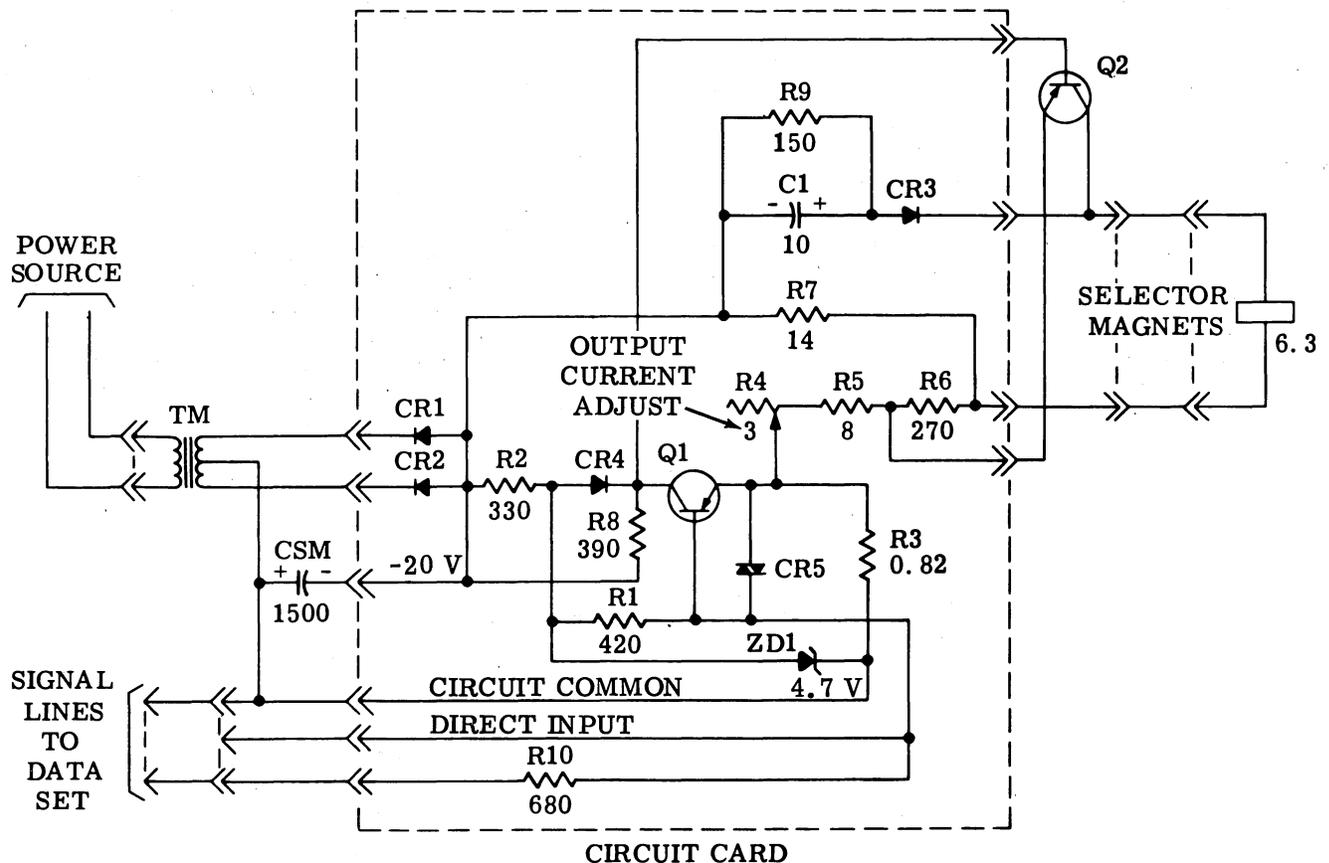

Figure 2 - Selector Magnet Driver Circuit
2.03 Call control unit UCC29 has a selector magnet driver circuit assembly. Figure 2 is a schematic diagram of that assembly. When a 0.02 ampere dc signal is received by the selector magnet driver, it is amplified to 0.5 in order to operate the typing unit selector magnet.